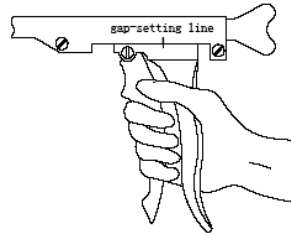

Fig. 4
3. Release the safety and squeeze the front handle firmly as far as it will go until stapling is completed. (Fig. 4)